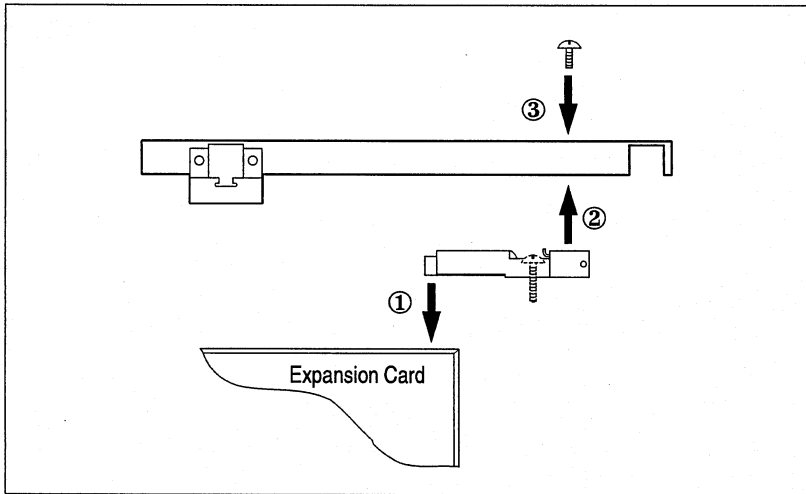

fig. A-21
1. Align the plastic guide of the card retainer close to the edge of the expansion card (fig. A-21).
2. Then position the card retainer in the closest position hole in the retention plate (fig. A-21).
3. Secure the card retainer in position using the position screw (fig. A-21).